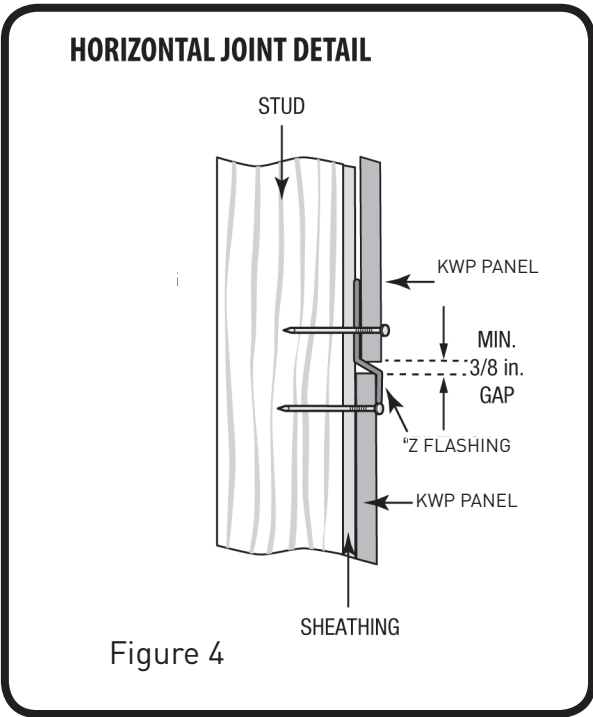

Figure 4
- At horizontal joints with stacked panels or other types of panel, overlap panels 1 in. or use Z flashing and fasten as shown (see Fig. 4).